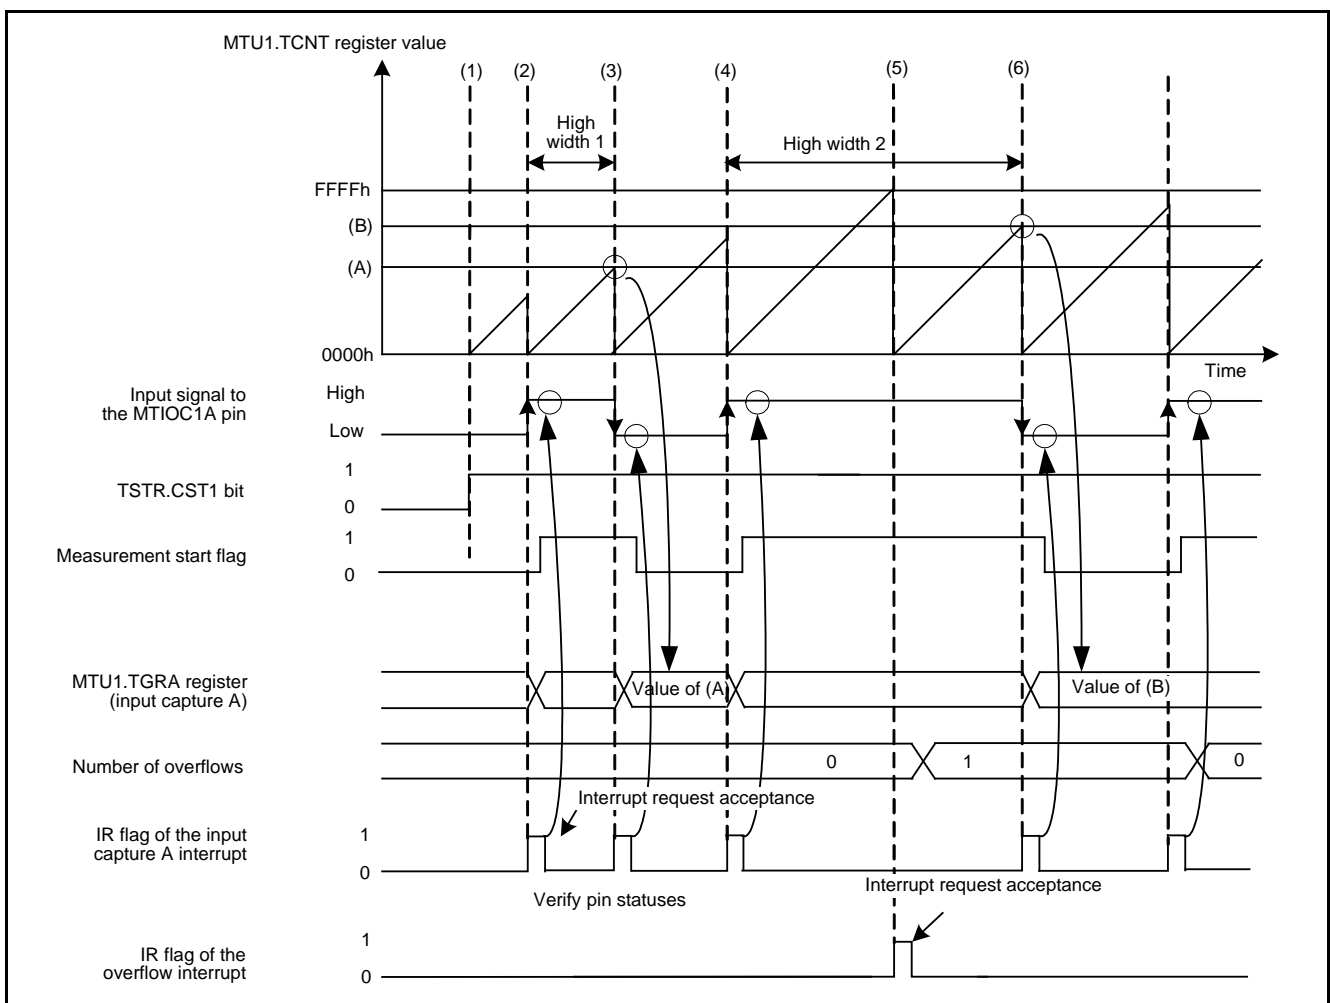

Figure 5.11 Timing Diagram of the Pulse Width Measurement
- (6) When a rising edge occurs on the signal input to the MTIOC1A pin again, the same operation as (3) is performed.
Figure 5.11 shows the Timing Diagram of the Pulse Width Measurement. (1) to (6) in the figure correspond to (1) to (6) in the description above.